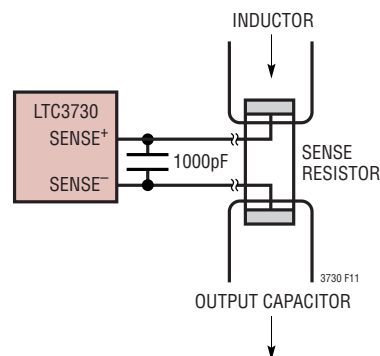

Figure 11. Kelvin Sensing R_{SENSE}
3) Are the SENSE^- and SENSE^+ printed circuit traces for each channel routed together with minimum PC trace spacing? The filter capacitors between SENSE^+ and SENSE^- for each channel should be as close as possible to the pins of the IC. Connect the SENSE^- and SENSE^+ pins to the pads of the sense resistor as illustrated in Figure 11.